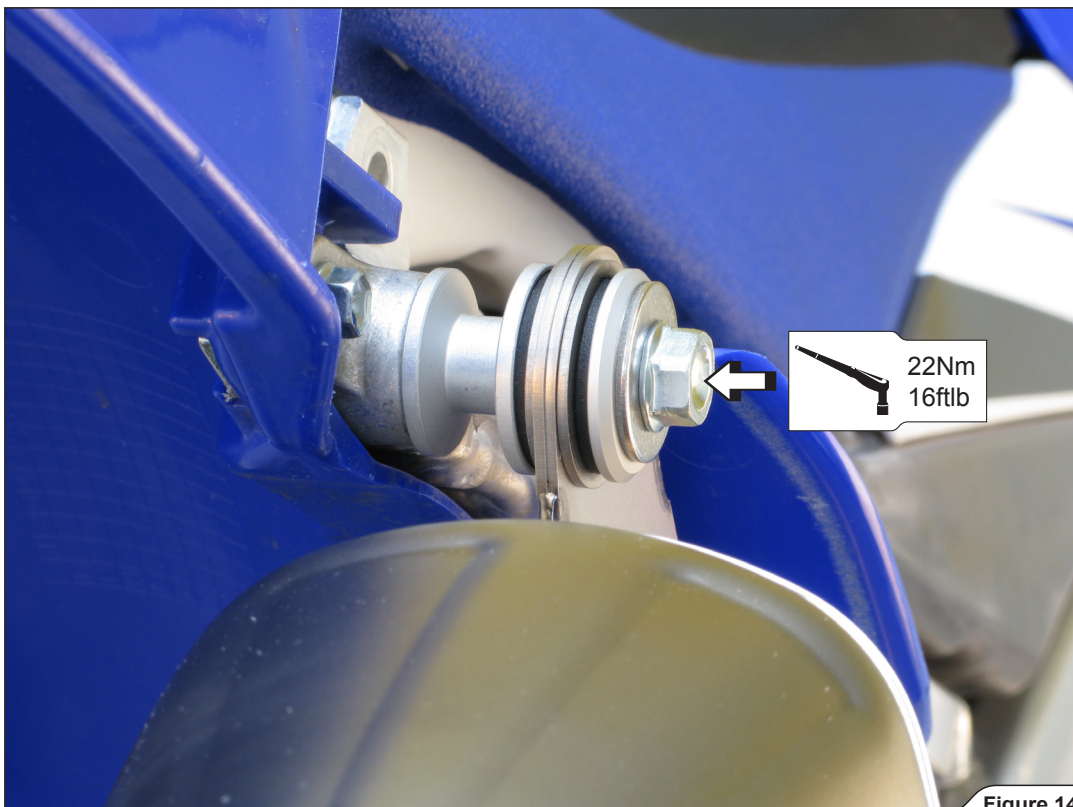

Figure 14
- Align the muffler in respect to the motorcycle and tighten the muffler's brackets bolts and clamp to the specified torque (**Figure 14, 15**).